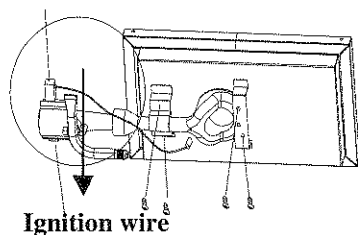

Figure 17
4. Tighten all four screws on the "U" bracket on the burner, then connect ignitor wire to ignitor. (Fig.17)